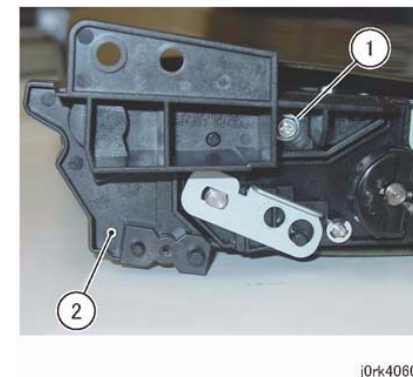

Figure 7 BUR Front Frame Removal
- (1) Install the Tension Plate between the shaft and the pin.
9. Remove the BUR Front Frame. (Figure 7)